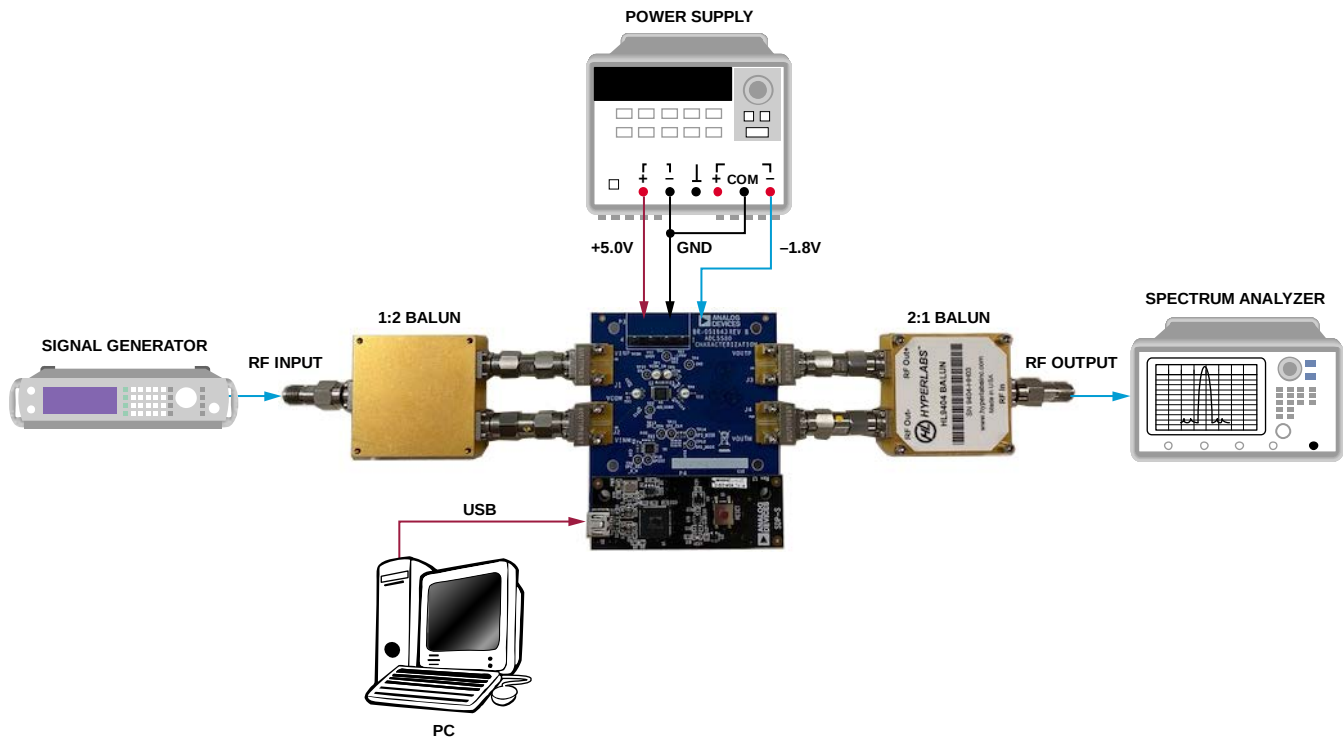

Figure 5. ADL5580-EVALZ Measurement Setup (Option)
Signal Generator (Option)	Set the source to a 100 MHz frequency with an output level of –20 dBm (see Figure 5)
Spectrum Analyzer (Option)	Connect to port through a 2:1 balun (see Figure 5)
- Configure the hardware according to the Hardware Setup section and what is shown in Figure 5.